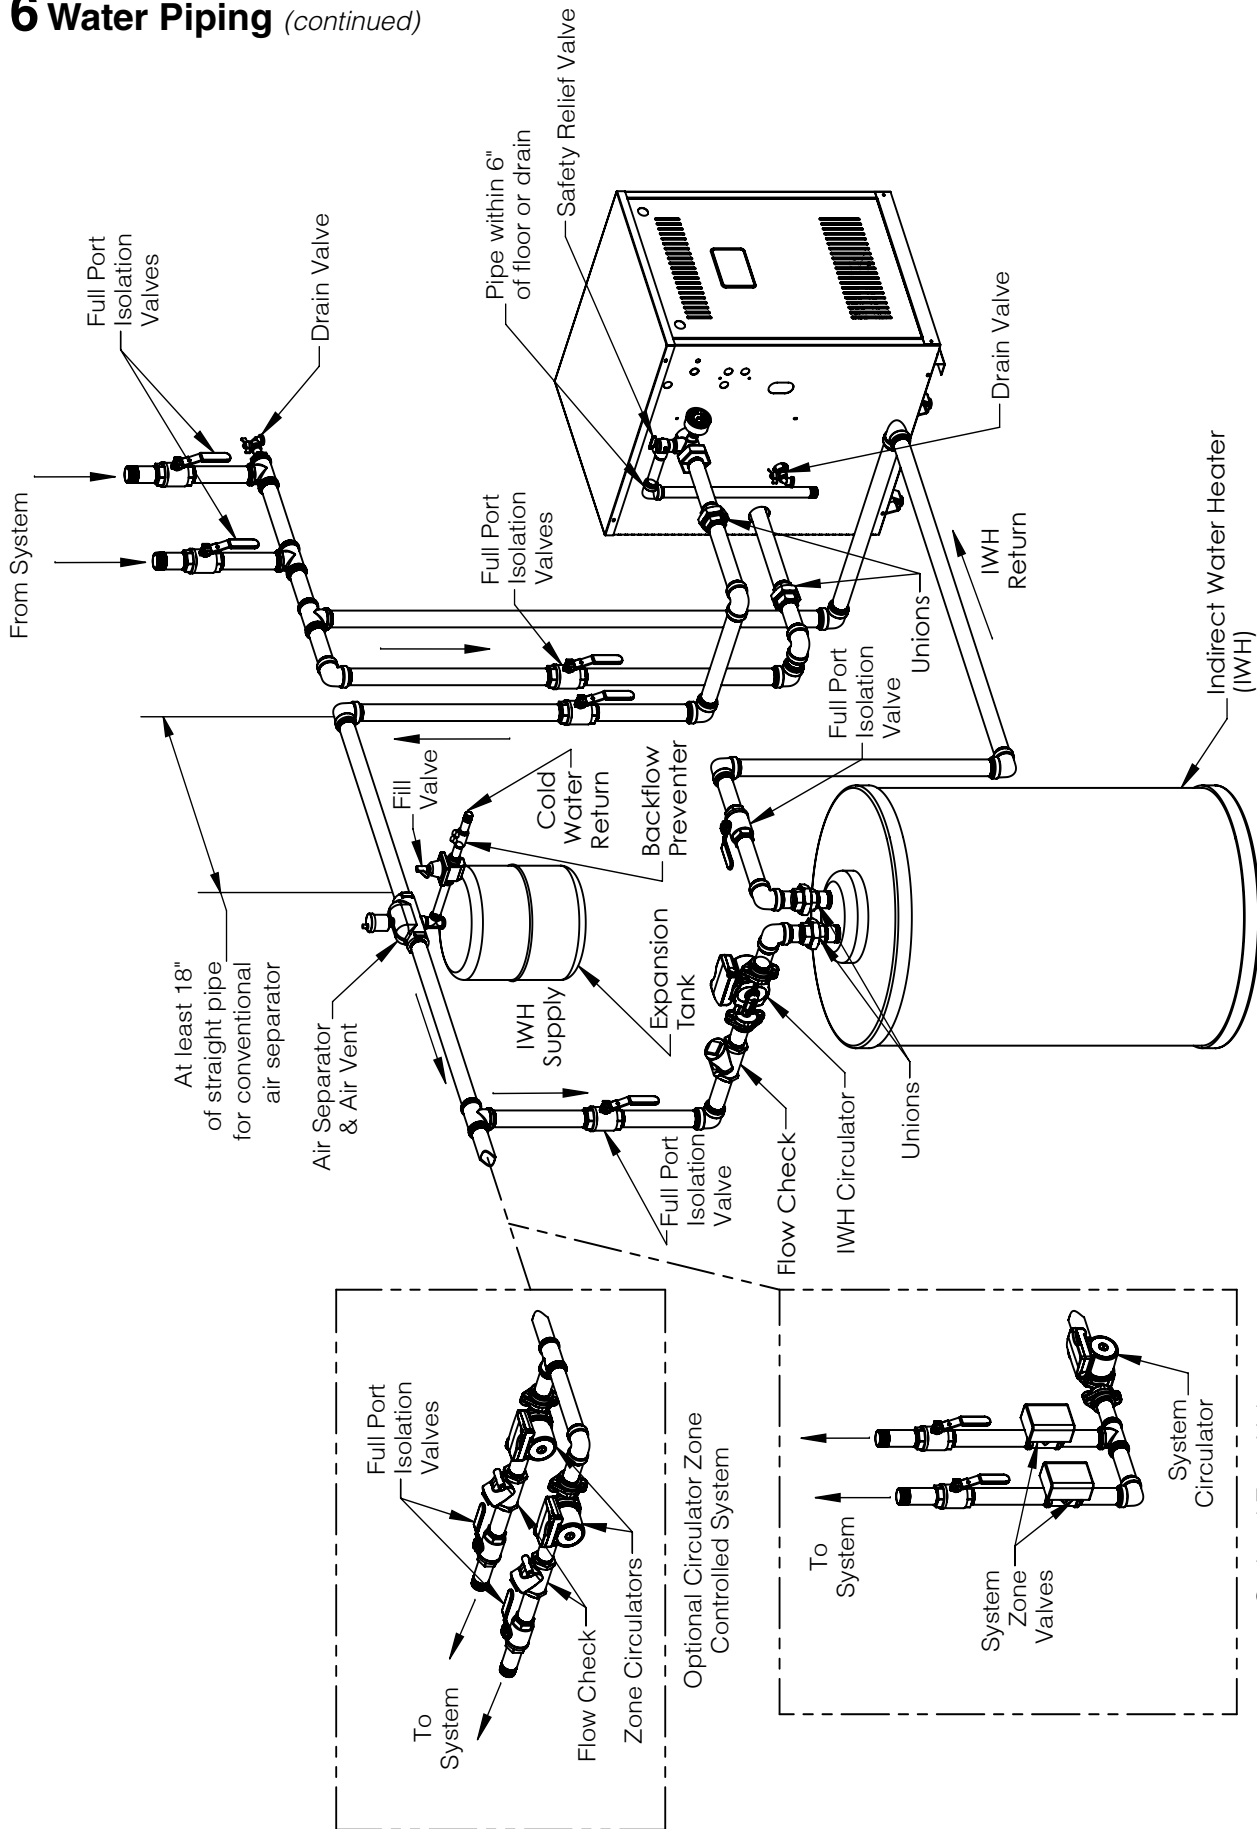

Figure 6-2: Recommended Water Piping Direct Connection System
- D. Connect system supply and return piping to boiler. Refer to Figures 6-2 and 6-3. Also consult Residential Hydronic Heating Installation and Design I=B=R Guide. Maintain minimum ½ inch clearance from hot water piping to combustible materials.
4. Attach hose to drain valve located on return piping (see Figure 6-2 and 6-3). Note-Terminate hose in five gallon bucket, at a suitable floor drain, or outdoor area).